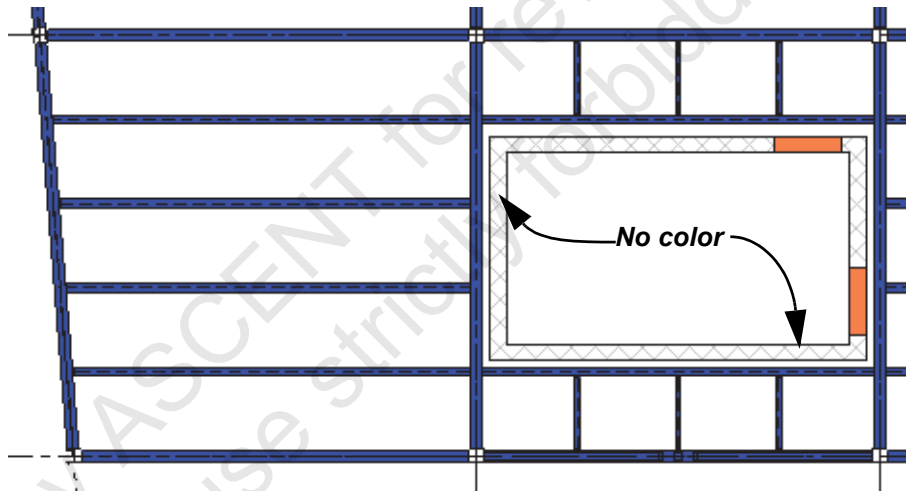

Figure 1–158
6. Click **OK** twice to close the dialog boxes. The Steel color now displays, but the masonry concrete walls do not display as expected, as shown in Figure 1–158.